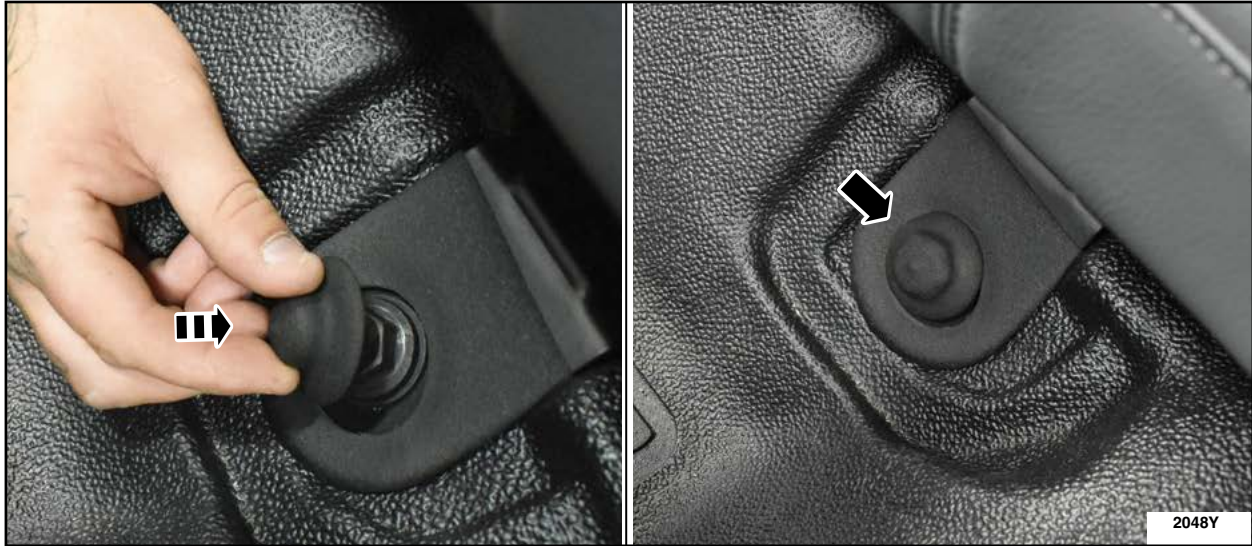

FIGURE 11
4. Install a seat bolt thermal protective cover as shown in Figure 11.